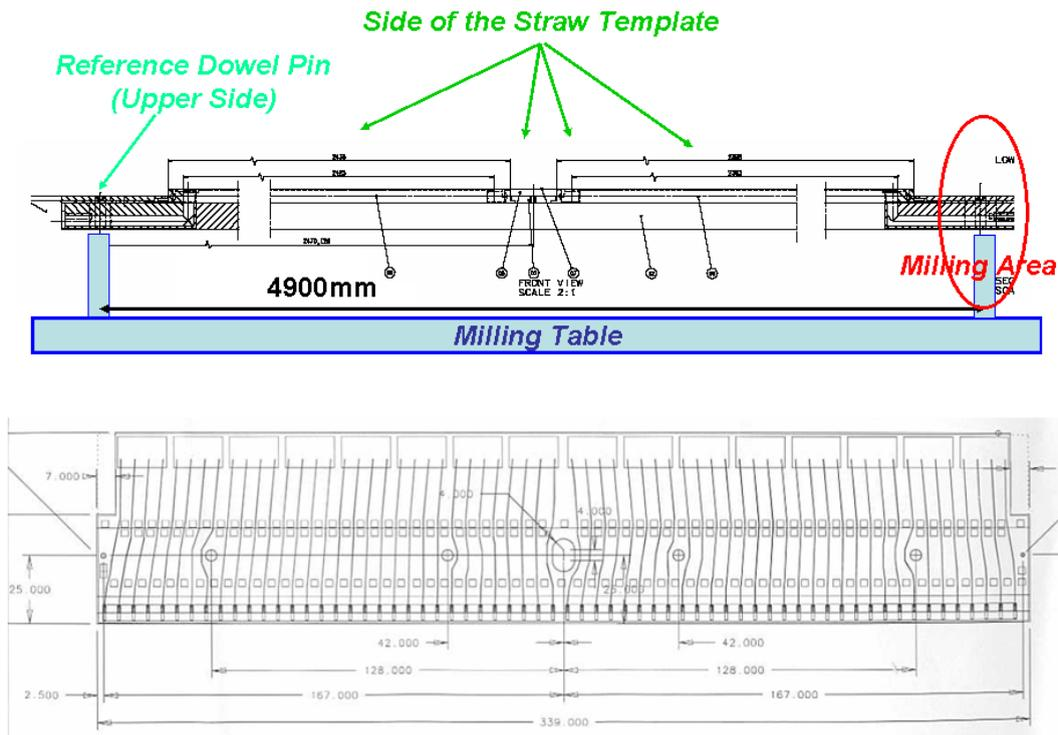

Figure 1 Side view of the Milling Setup (top) and Lower Feed-Through Board Layout (bottom).
- b. **Solution:** remachining of the slotted hole, as shown in Fig.1